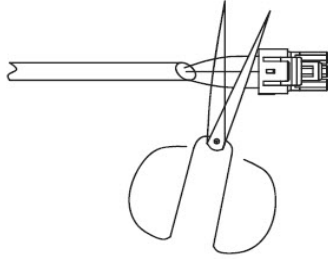

Fig. 60 —Shearing Outdoor Connector
1. Cut connector on outdoor unit side as shown in Fig. 60.